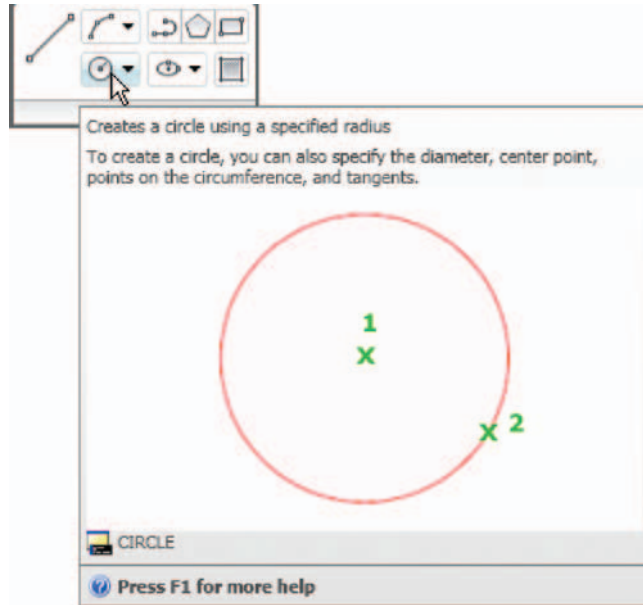

Fig. 2.11 The **Circle** tool from the **Home/Draw** panel
2. *Left-click* on the **Circle** tool icon in the **Home/Draw** panel (Fig. 2.11).